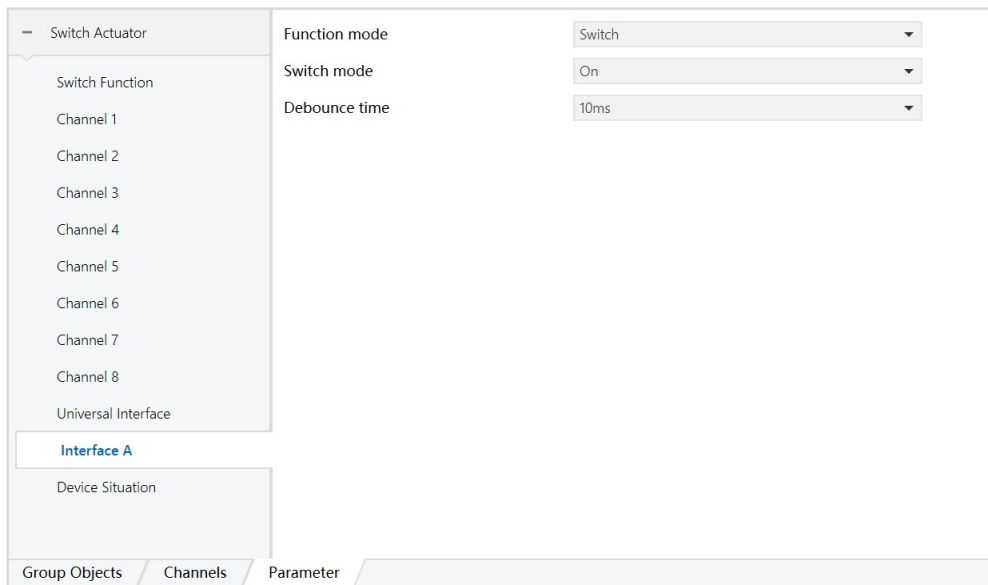

Figure 6.2.2
2) After the setting is completed, four dry contact interfaces, Interface A-D, will appear on the right. Click each dry contact interface to set its parameters. Take Universal Interface A as an example below, as shown in Figure 6.2.2.